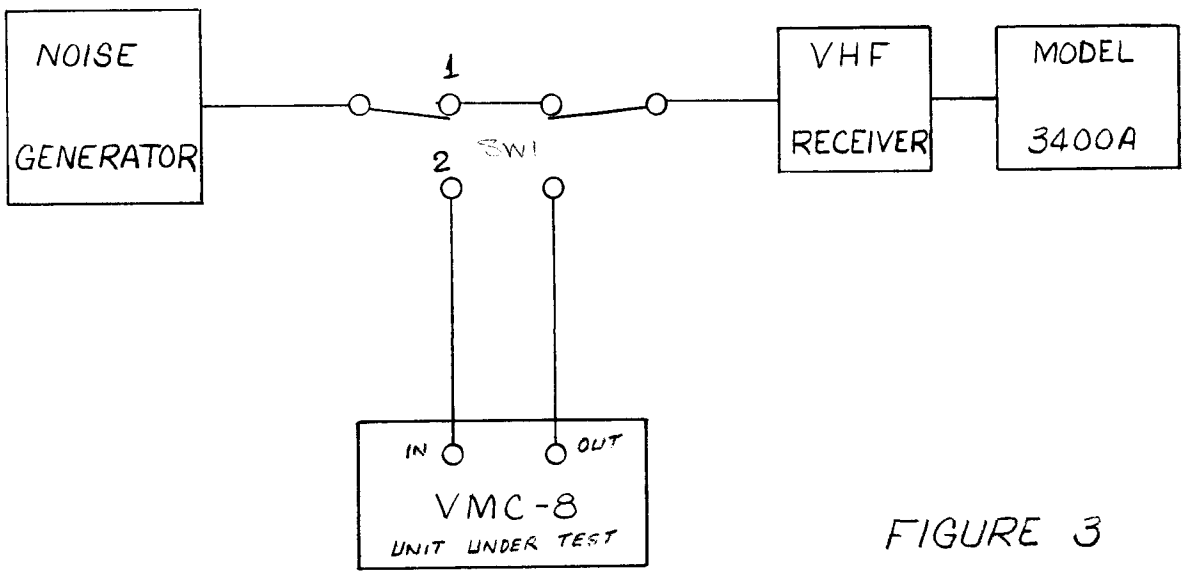

FIGURE 3
1. Connect the test equipment as shown in figure 3.